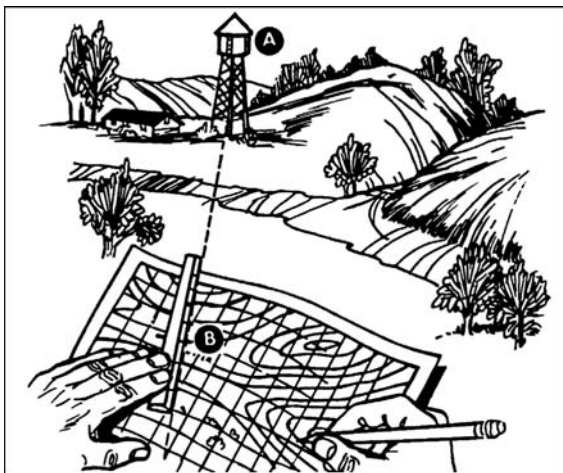

Figure 071-329-1015-2. Resection without a compass
2. Perform resection without a compass (figure 071-329-1015-2).
- a. Orient your map as closely as you can, using one of the ways you've learned for finding direction: compass, sun, watch, or stars. Look for some feature, such a water tower (figure 071-329-1015-2, point A), that you can also find on the map. Put a ruler or straight edge on the map, and place it next to the water tower symbol (figure 071-329-1015-2), point B on the map. Align the straightedge so that it points directly at the real water tower. Draw a line along the straight edge or ruler. The line will cross the symbol for the water tower on your map.